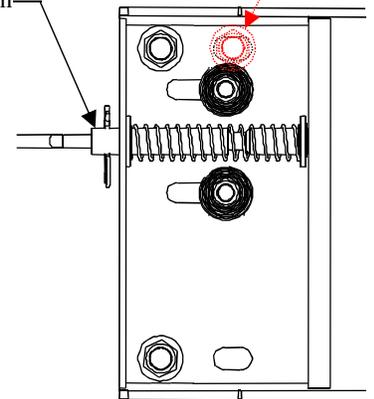

Figure 2
- 2a. **Positioning the cross members from underneath:** Place the cross members into position between the top of the frame and under the bed as shown in Figure 2, starting with the rear cross member. Note: the cross members in this kit are the same, but they face different directions as shown in Figure 1. Slide the rear cross member between the driver's side frame and the vehicle bed, then over the exhaust (Figure 2a). Slide the right end of the cross member over the passenger's side frame and back against the rear bed support. Install the forward cross member as shown in Figure 2b.
8. Touch up the drilled holes with paint. Install the U-Bolts from the inside of the bed (see figure 2).